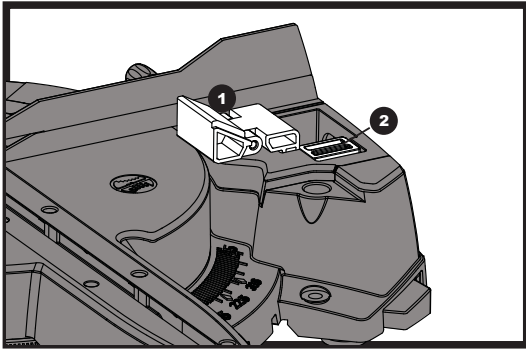

Fig 36
- 2) Pull the stop(1) from its stored position upwards and to the left. The stop will deploy.
- 3) Slide the release lock (2) backwards to lock the stop into position.
- 4) To stow away, reverse the above steps. (See fig. 36)